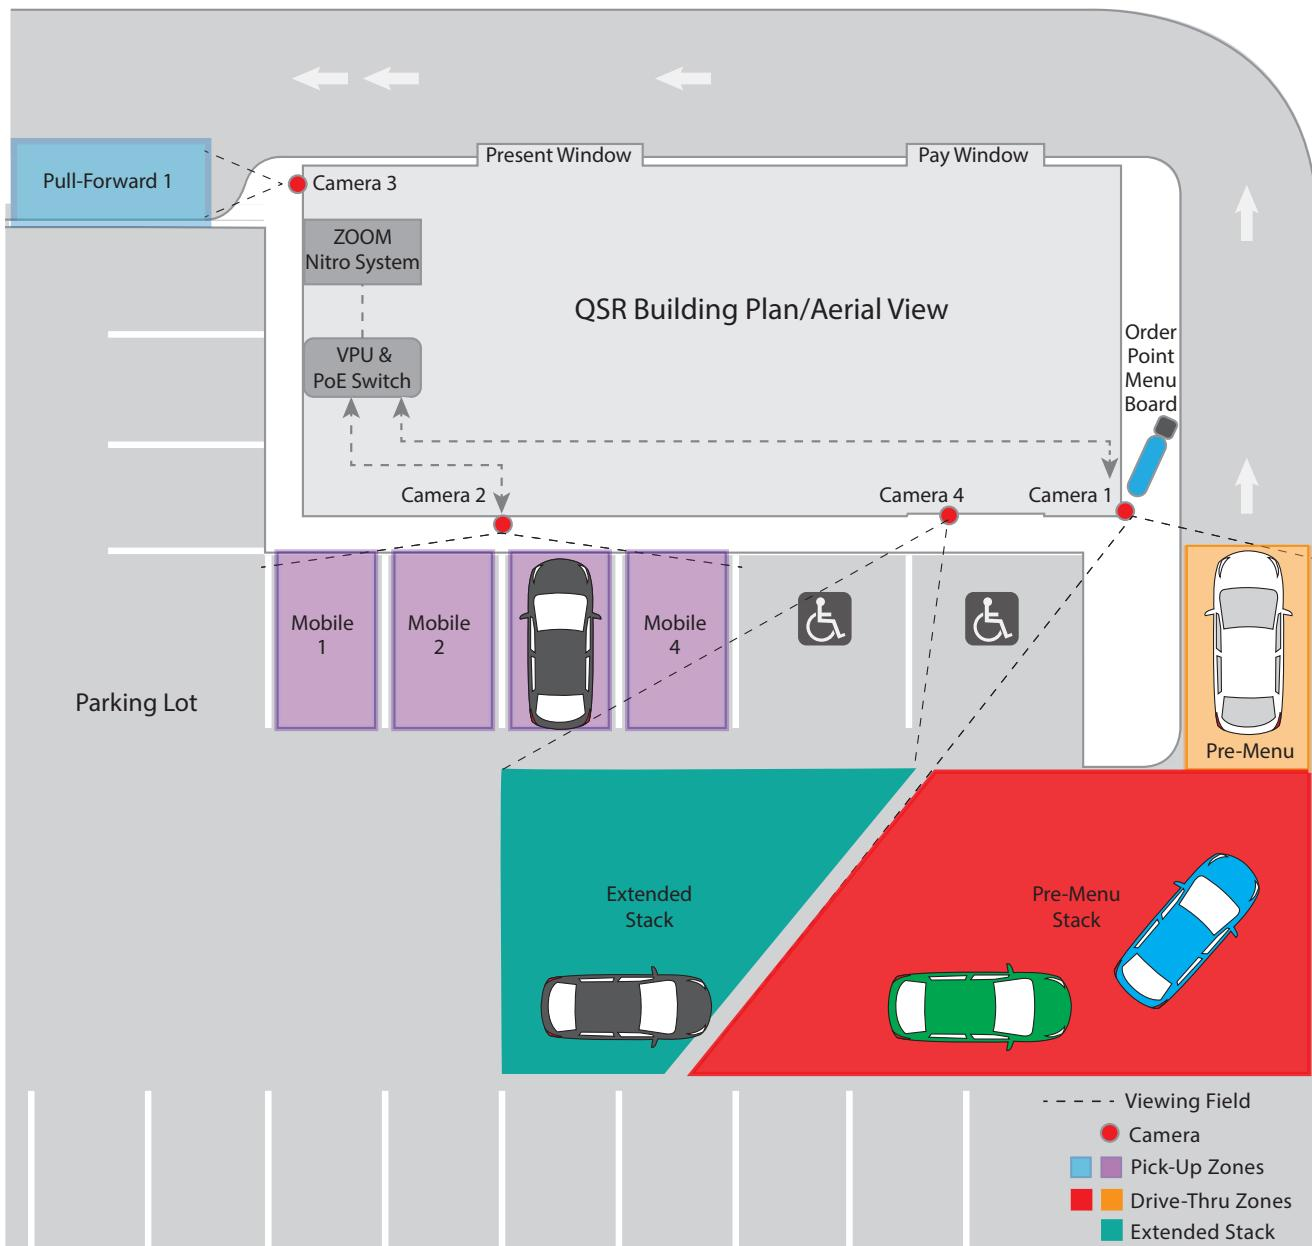

Fig. 1
Cameras are used to detect and track vehicles in a drive-thru or in a mobile space. Fig 1 shows an example of multiple possible locations.
Extended Stack: (The teal area in Fig. 1.) This is an area behind the pre-menu stack that extends it.
Pre-Menu Stack: (The red area in Fig. 1.) This is an area behind the pre-menu where customers can potentially exit the lane and drive off if they decide not to wait.
Pre-Menu: (The orange area in Fig. 1.) This is the area where a single car next in line is waiting just before reaching the order point.
Captured lanes: These lanes have a physical boundary along the lane, which prevents cars from pulling out of the lane and driving off. These boundaries can be curbs, walls, railings, or hedging. (Fig. 1 has curbs). Captured lanes are also narrow enough so that a car cannot overtake the car in front of it. The only way a car can escape a captured lane is by reversing out of it.
The Blue and Purple areas in Fig. 1. Camera's should be installed to see as many mobile or pull-forward spaces as possible, up to four mobile spaces per camera (eight maximum with two cameras) or up to two full-forward spaces (two maximum) or a combination of both. Cameras should be positioned to view the front or back of these pick-up zones since side views can be problematic due to obstruction issues.
- If cars turn as they move first through the Pre-Menu Stack and into the Pre-Menu zone (as in Fig. 1), it is best if the camera is positioned to see cars from the side and from the front.